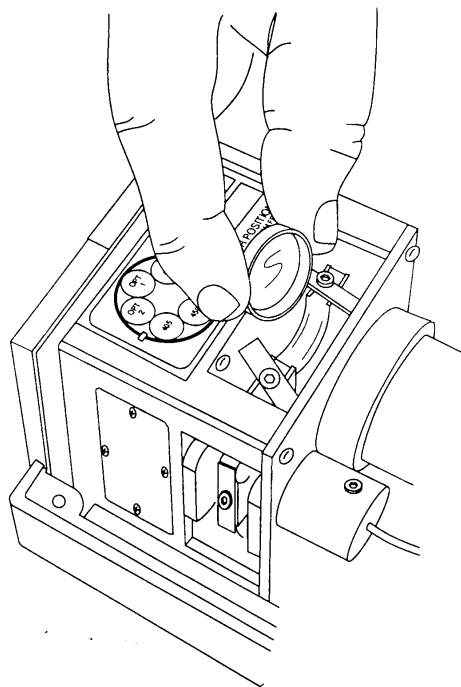

Figure 14: Installing the New Filter into the Filter Wheel
- 6) Turn the filter so that it is parallel to the appropriate open slot on the filter wheel and so that **the recessed side faces the front of the microplate reader while the flat side faces the reader. When properly oriented, the wavelength printed on the perimeter can be read from the front of the microplate reader.** Carefully insert the filter into the open slot in the filter wheel (see Figure 14).